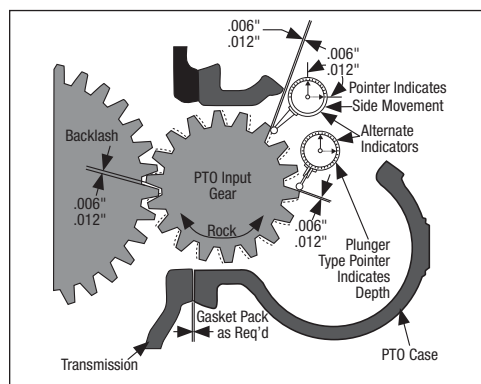

Figure 13
5. Acceptable backlash measurement is .006"-.012" (0.15-0.30 mm) (**Fig. 13**).